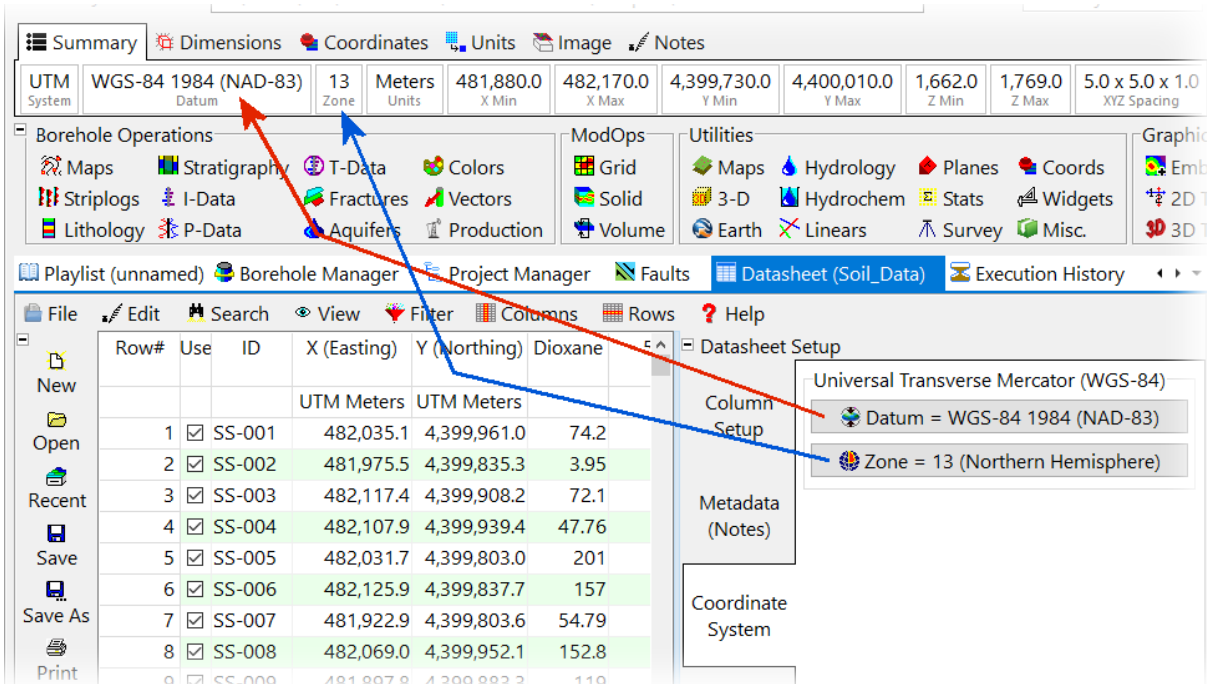

Figure 9
- Make sure that the Coordinate System is the same as the Project Coordinates (Figure 9).